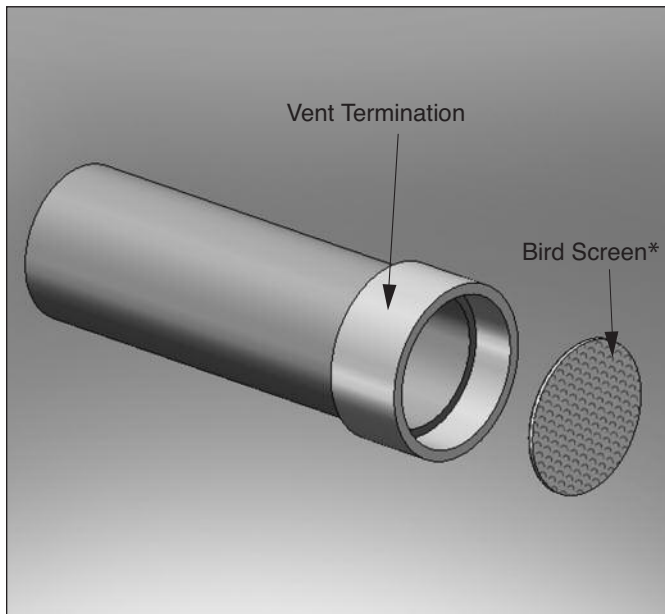

Fig. 16: Horizontal Vent Bird Screen Installation with Coupling Termination
1. The vent and combustion air terminations must include a factory supplied "bird screen" installed as shown in Figs. 16 through 19 page 15.